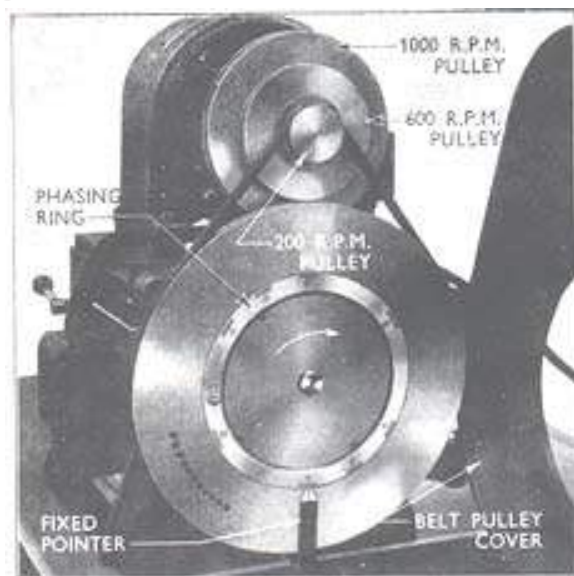

Fig. 20
5. As the plunger in No. 1 element begins to rise, fuel will flow freely from the spill pipe until such time as the plunger covers the ports. Stop rotating the camshaft as soon as the fuel flow from the spill pipe ceases (spill cut-off point) and set the phasing ring on the end of the lower pulleys so that one of the graduation lines marked 6C is in line with the fixed pointer (see Fig. 20).